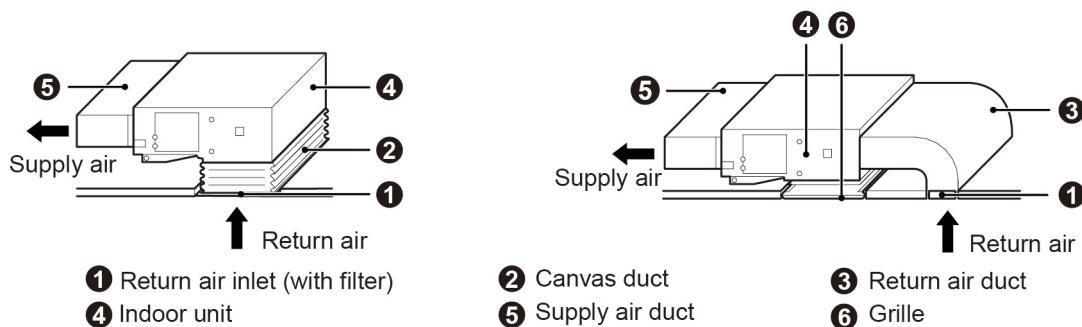

Fig.4.4.5
- (2) If the bottom return air is desired, just change the place of the rectangular flange and the return air cover plate.
- (3) Connect one end of the return air duct to the return air outlet of the unit by rivets and the other to the return air louver. For the sake of the convenience to freely adjust the height, a cutting of canvas duct will be helpful, which can be reinforced and folded by 8# iron wire.
- (4) More noise is likely to be produced in the bottom return air mode than the rear return air mode, so it is suggestive to install a silencer and a static pressure box to minimize the noise.
- (5) The installation method can be chosen with considering the conditions of the building and maintenance etc., as shown in Fig.4.4.5.